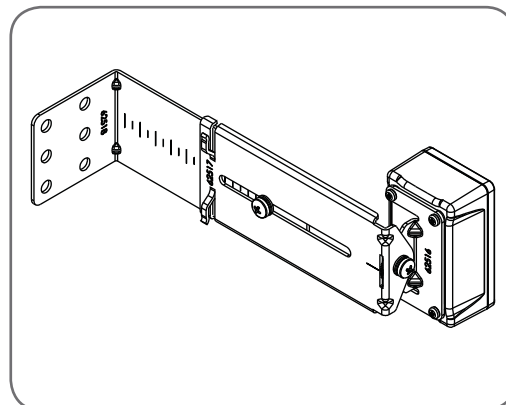

fig 10
- Attach the bracket (2) to the EasyBeam™ transmitter with four taptite screws (m3x5) and attach the other side to the adjustment bracket (3) with the pan head screw (6). (Fig. 10)